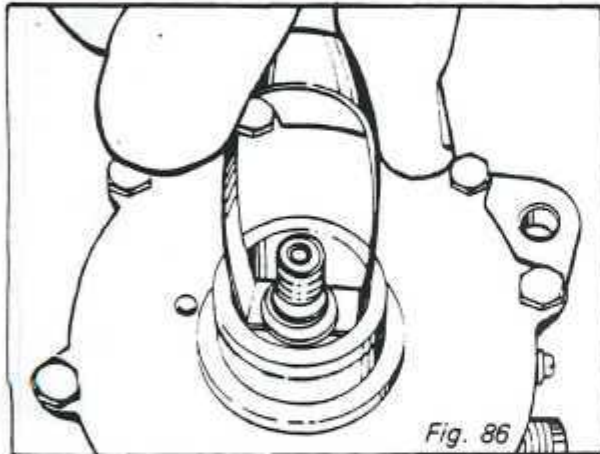

Fig. 86
Step 6 — Remove the shaft seal seat, using tongs. Fig. 86